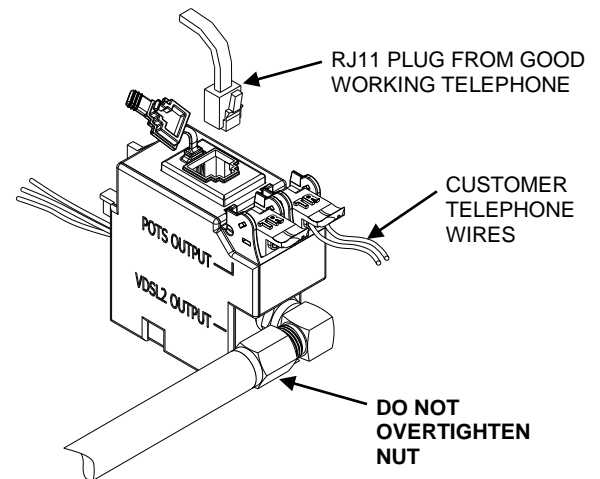

Figure 3
1. Open the Autojack Cover (See Figure 3).
2. Using a working telephone, insert telephone RJ-11 plug into the customer test jack (See Figure 3).